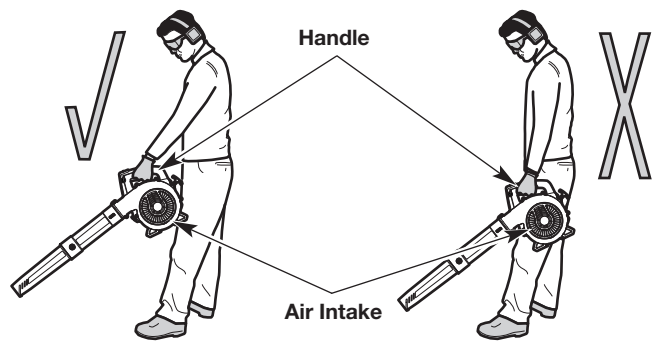

Fig. 6
- Stand in the operating position (Fig. 6). Stand up straight. Do not bend over.
- Hold the unit in front of, and away from, your body (Fig. 6).
**WARNING:** To prevent serious personal injury or damage to the unit, **DO NOT** hold the unit at your side (Fig. 6). The engine may be extremely hot. **DO NOT** block the air intake.